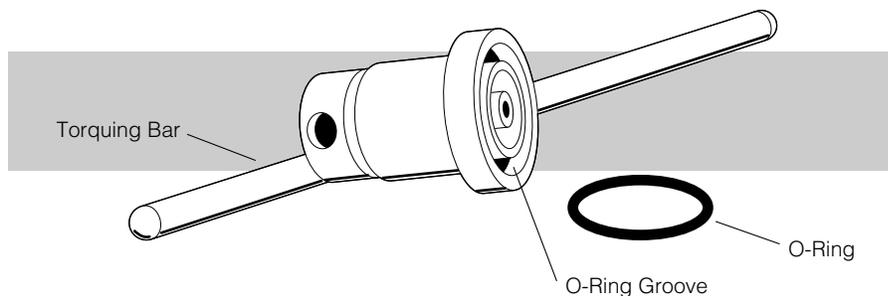

Figure 3. Rotor Tie-Down Nut and O-Ring
3. When the yoke is seated, ensure that the rotor tie-down nut O-ring (927571) is lubricated, in good condition, and in place (see Figure 3).